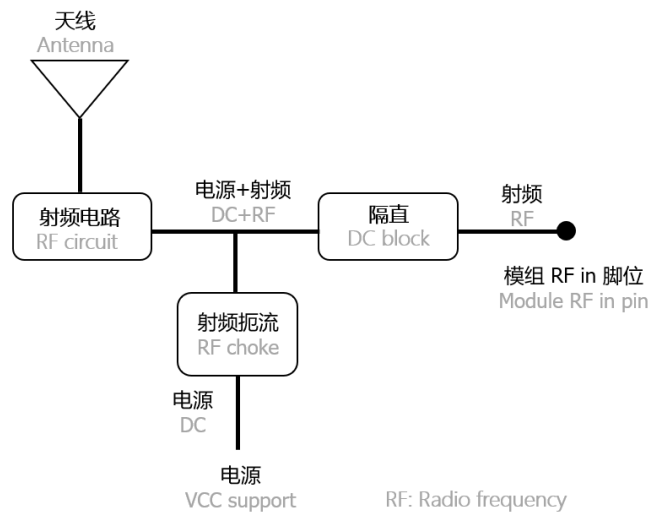
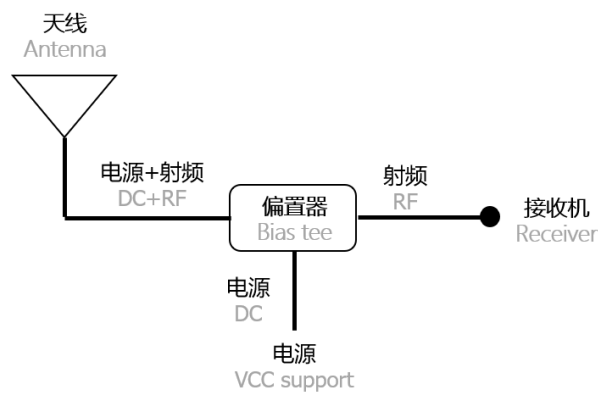

图 3 模块供电 Power supply by module
图 4 外部供电 Power supply by external
- ◆ 如使用模块供电,主板供电建议电路如图 3, 如接收机端 RF 口不带供电特性,请参考图 4 外拉供电建议 (仅限有源天线)
The recommended circuit for GNSS module and mainboard power supply is shown in Figure 3. The recommended for external power supply in Figure 4. (Only active antenna)